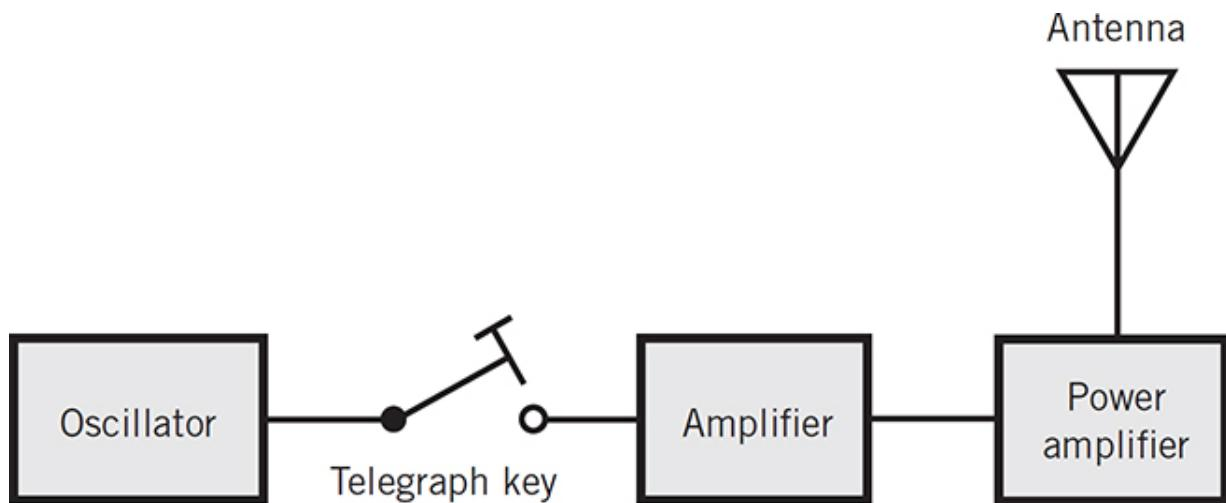

FIG. 1-1 Block diagram of a radio transmitter that can send signals in Morse code.
- A *block diagram* gives you an overview of how the individual circuits in a system work together. You'll see each circuit represented as a “block” (rectangle or other shape, depending on the application). Interconnecting lines, sometimes with arrows on one or both ends, show how the circuits combine to form the whole system, and how currents and signals flow among those circuits. Figure 1-1 is a simple example.